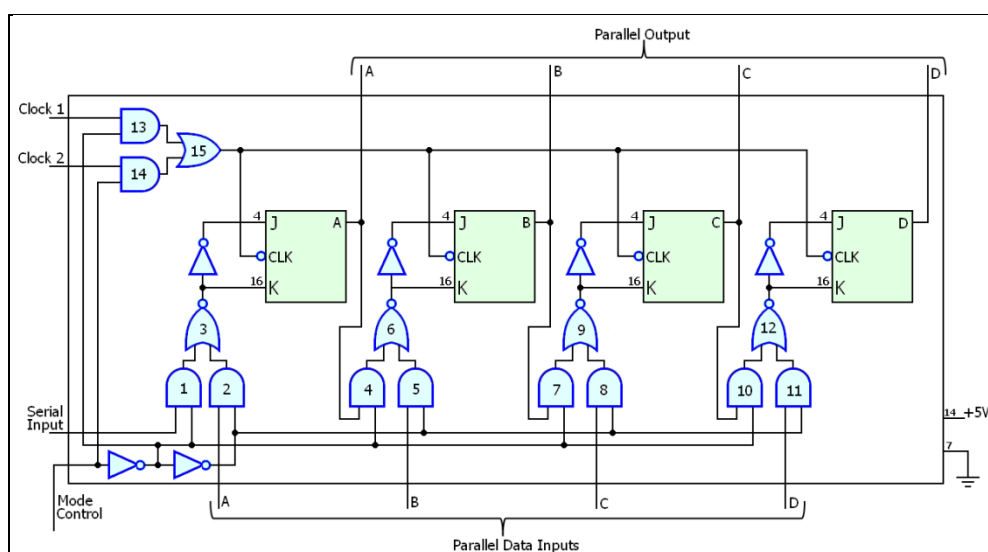

Fig. 3.4-10 Logic Diagram of 74LS95 TTL MSI Shift Register
4. Given the logic diagram of 74LS95 TTL serial/parallel shift register in Fig. 3.4-10: